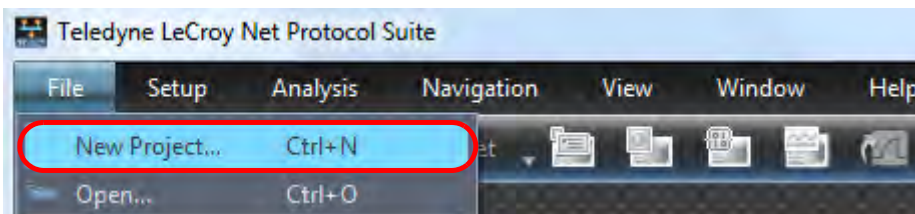
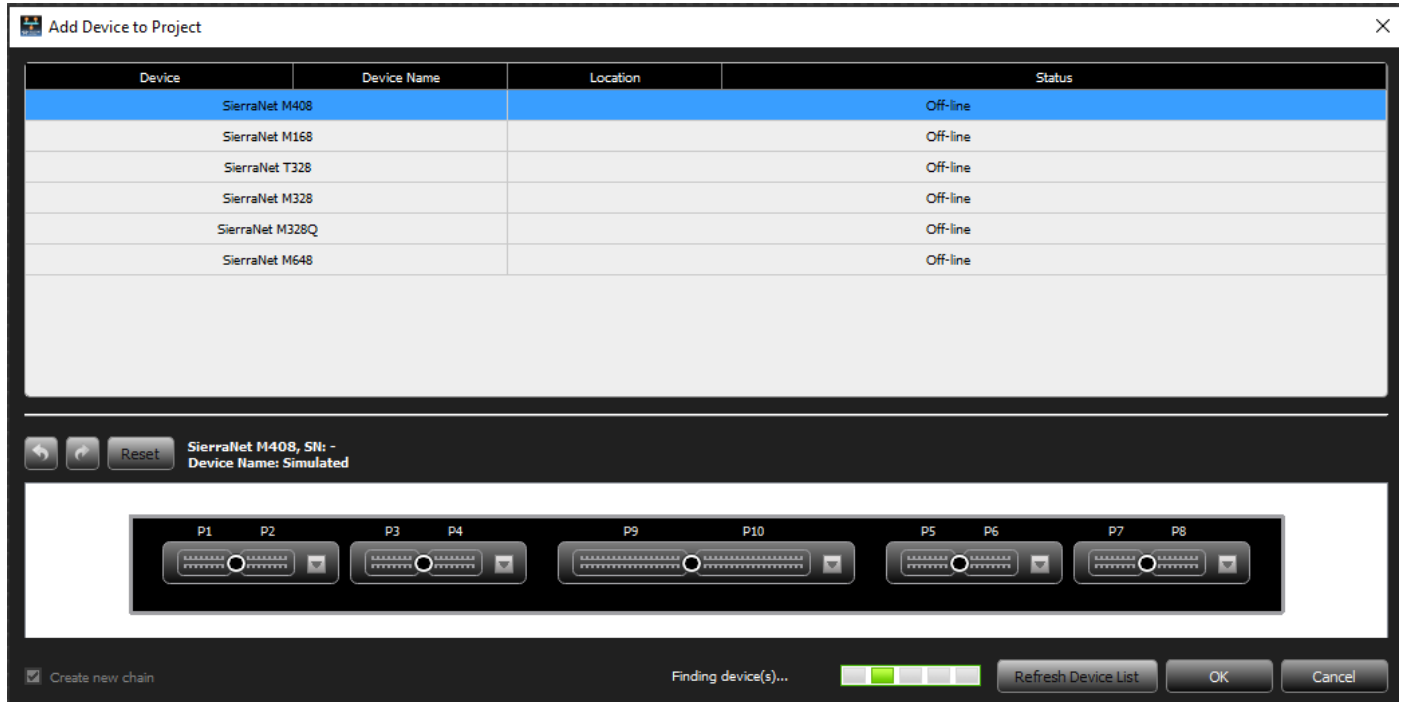

Figure 6.1: Starting InFusion
Figure 6.2: Add Device to Project
1. Select **File** → **New Project** from the Main Net Protocol Suite Menu (see Figure 6.1). This brings up the Add Device to Project window. See Figure 6.2.